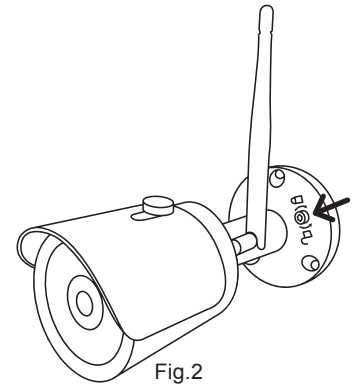

Fig.2
- To adjust the camera angle, loosen the screw at the bottom of the camera using the Allen key provided with the system (Fig. 2). Next, adjust the two dimensions of the camera to set its position at the required angle. After adjusting the camera, tighten the locking screw.